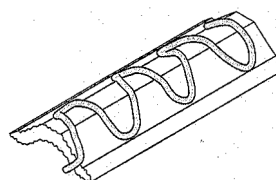

Fig. 29: S-pattern bead on the corner trim
4. **Apply the silicone.** Apply a 1/8" to 1/4" bead of 100% clear silicone sealant to the back of the corner trim in an S pattern (Fig. 29).